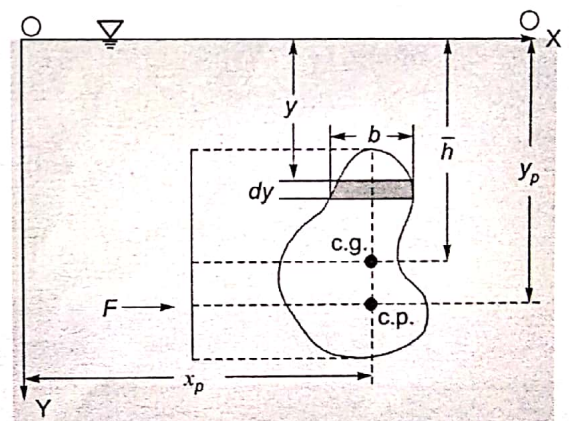

Figure 3.3 Total hydrostatic force on a vertical plane surface
- Consider a plane surface having area  $A$  is submerged in static mass of liquid having specific weight  $\gamma$ . The surface is in vertical position such that the centroid of surface is at a depth of  $\bar{h}$  below the free surface of the liquid (Figure 3.3).